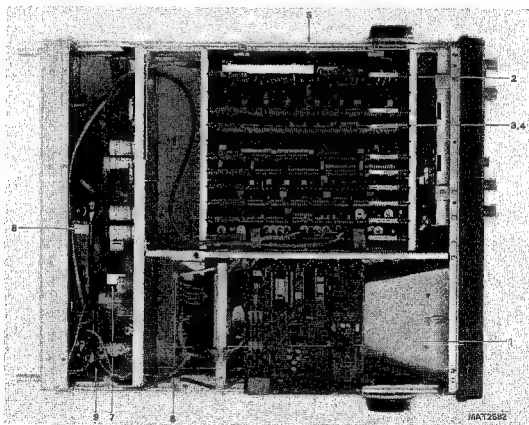

Figure 15.10 Miscellaneous parts.
15.5 MISCELLANEOUS PARTS (Figure 15.10)